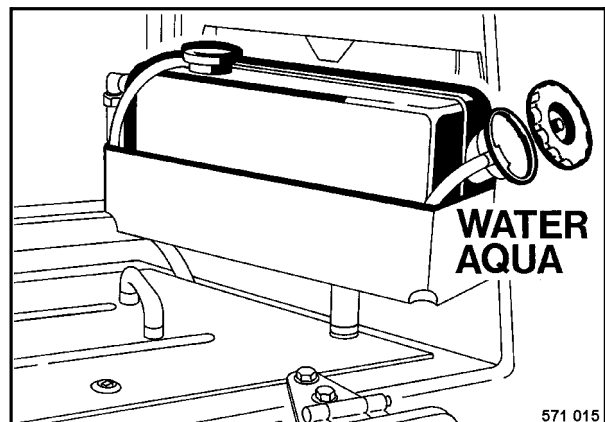

Fig. 7
- Unscrew the cover from the compensation tank (Fig. 7).